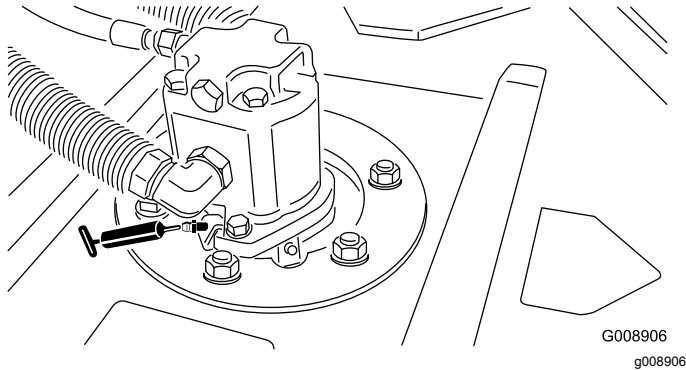

Figure 68
- Cutting unit spindle-shaft bearings (2 per cutting unit)—Figure 68